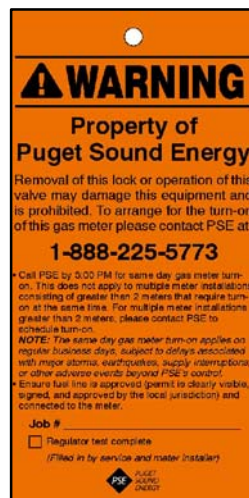

Figure 8
- The **riser shutoff valve** will be locked in the CLOSED (off) position. Removal of this lock or operation of this valve by unauthorized persons may damage this equipment and is prohibited. See *Figures 8* and *9*.
- The **meter outlet valve** will be in the CLOSED (off) position (depending on gas load, the meter configuration may change). See *Figures 8* and *9*.